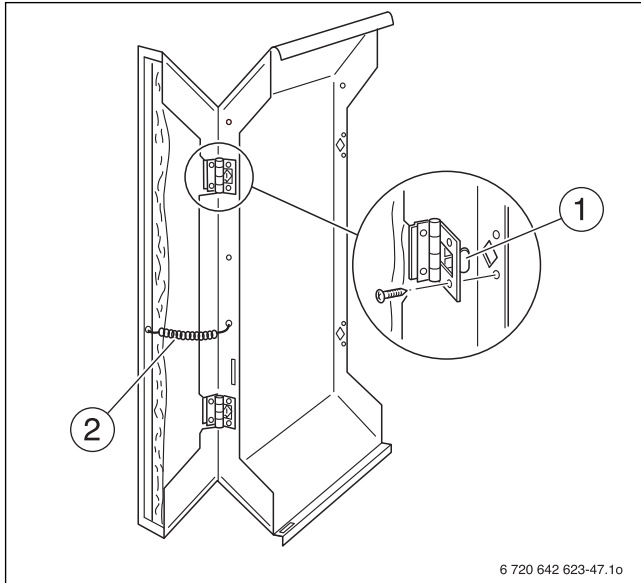

Fig. 49 Fitting the side panel flaps
- ▶ Hook the hinge pins (→ Fig. 49, [1]) on the side panel flap into the cut-out of the front side panel and secure with self-tapping screws.
- ▶ Attach tension spring (→ Fig. 49, [2]) to the side panel and side panel flap.